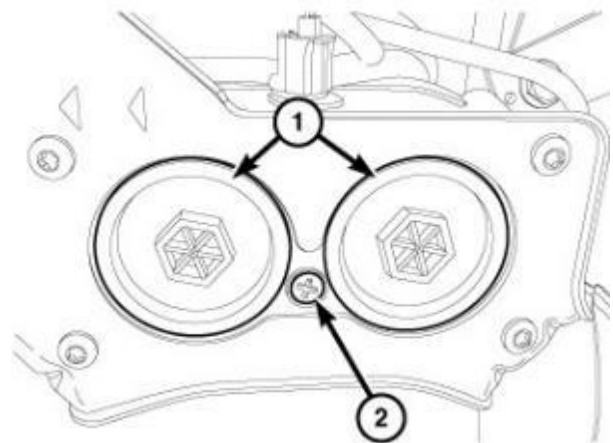
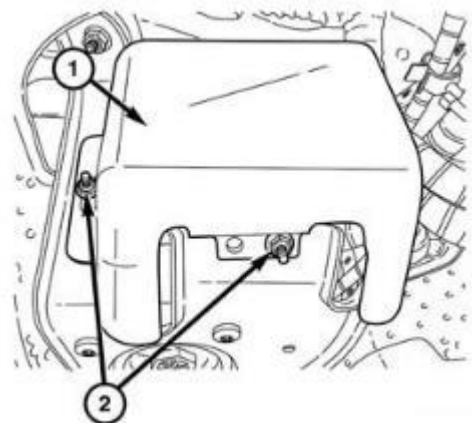

Figure 65 - Drain Plug
Figure 66 - Fuel Filter Shield
89. Loosen the drain plug (2) and drain the diesel fuel into a suitable container (Figure 65).
90. Securely tighten the drain plug (2).
91. Remove the nuts (2) and the fuel filter shield (1) (Figure 66).
112. Install the fuel filter shield (1). Tighten the nuts (2) 14 N·m (10 ft. lbs.) (Figure 66).